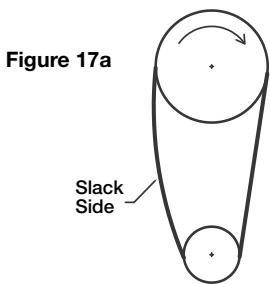

Figure 17a
- Sizes 099-160:** Belts should be tensioned just enough to prevent slippage at full load. Belts should have a slight bow on the slack side while running at full load; see Figure 17a.